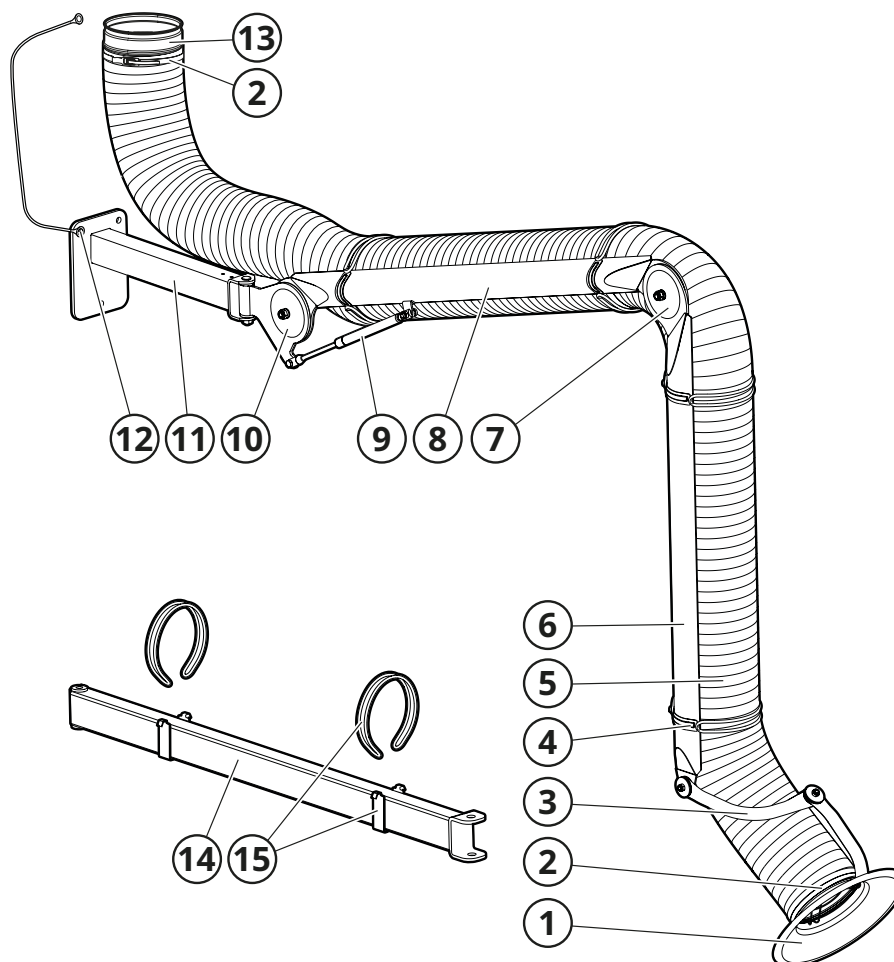

Fig. 2
See Fig. 2.
The extraction arm is mounted on a wall bracket (11, Fig. 2) as standard and has externally attached support arms (6, 8). The upper joint (10) is fitted with a gas spring (9) to balance the weight of the arm. The extraction arm's friction is regulated at each joint (7, 10). The hood (1) is designed for maximum suction efficiency and is ideal for gas and dust extraction. The hood joint (3) can be bent 180°+180°. The hose (5) is mounted on the arm via a Fumex Q-MaiD™ quick release clamp (2) and hose fixation (4). The extraction arm is double earthed with the quick release clamp (2) and earth cable (12) to the connector (13).